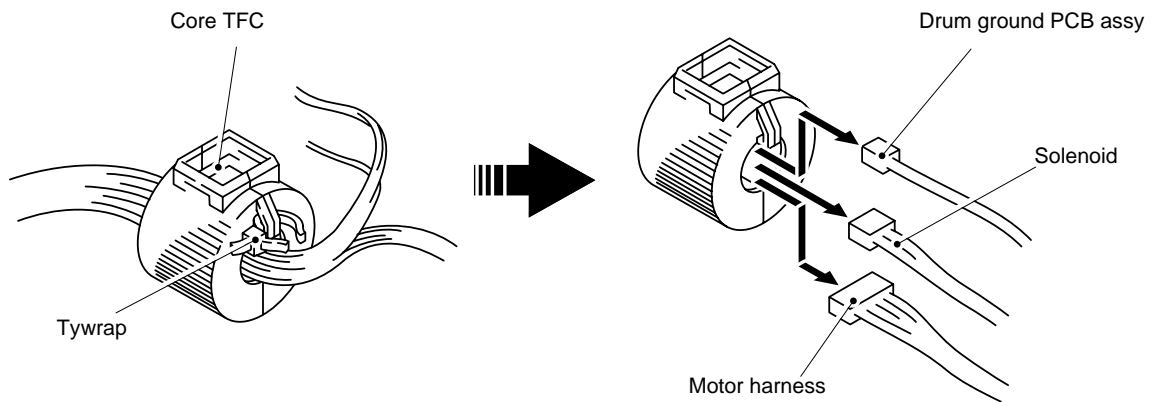

Fig. 3.19
- (1) Pull the left rib outwards from the MP tray and pull out the MP tray. It is not necessary to release the right rib. **Fig. 3.19** **NOTE:** When reassembling, remove the old grease from the Motor